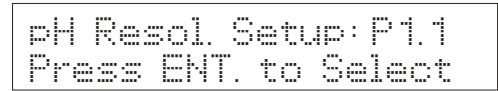

Figure 83
2. Use  $\Delta/MI$  key to scroll to program *pH Resol. Setup: P1.1*. See **Figure 83**.